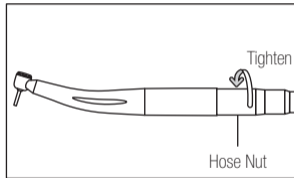

Fig. 3
- 1) Insert the handpiece correctly into the hose connector and tighten the Hose Nut. (Fig. 3)